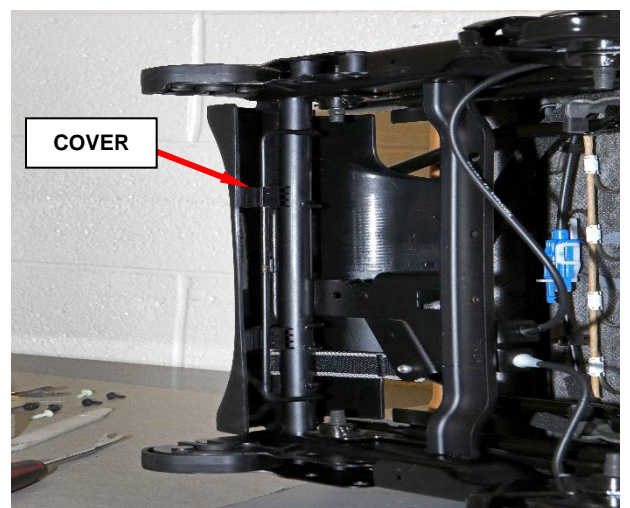

Figure 15 – Front Seat Track Cover
8. Disengage the front seat track cover and remove the cover (Figure 15).